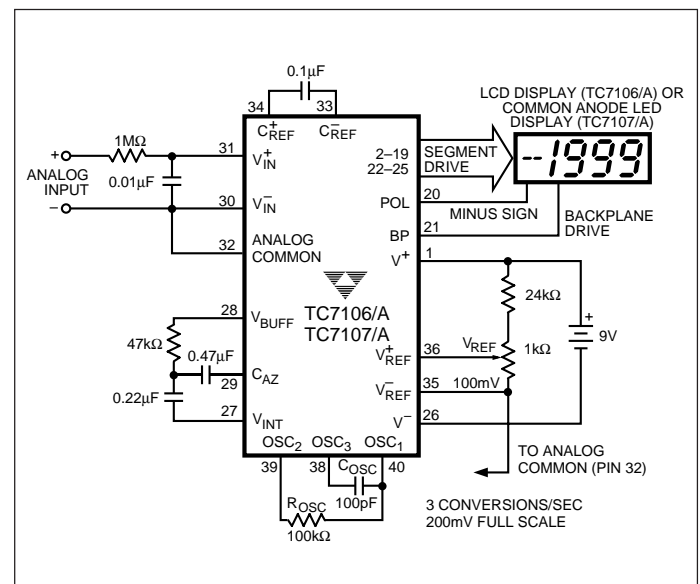

Figure 1. TC7106A/7A Typical Operating Circuit
3. Unless otherwise noted, specifications apply to both the TC7106/A and TC7107/A at $T_A = 25^{\circ}\text{C}$, $f_{\text{CLOCK}} = 48\text{ kHz}$. Parts are tested in the circuit of Figure 1.